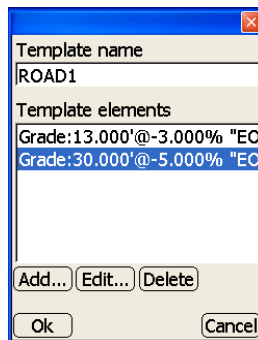

Figure 2-22. Template Elements Dialog Box
13. Repeat steps 11 and 12 on page 2-14 for each template element. After entering all desired elements, press **Ok** on the *Template elements* dialog box (Figure 2-22).